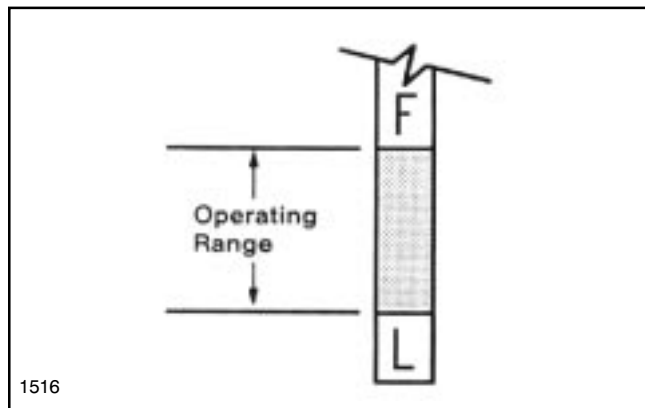

FIG. 15
2. Add oil if necessary to bring the level up to, but not over, the "F" mark on the dipstick (See FIG.15). For detailed instructions, see BEFORE OPERATING, CHECK ENGINE CRANKCASE OIL, page 16.
7. Fill the crankcase with new oil of the proper type to the "F" mark on the dipstick. See FIG. 15, page 36.